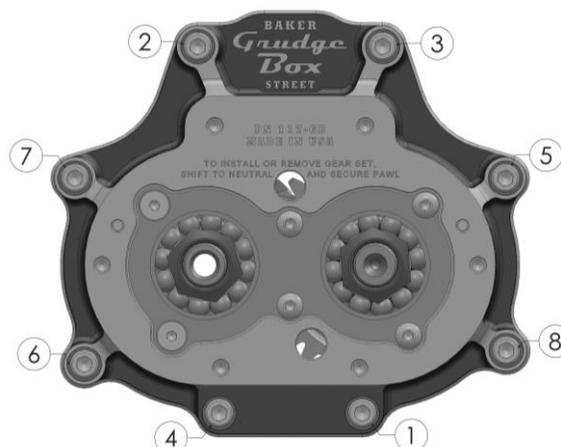

FIGURE 30 | TORQUE SEQUENCE FOR GRUDGEBOX BEARING DOOR BOLTS
- Install the eight stainless steel cap screws and washers onto the bearing door using blue threadlocker. Be sure to replace the exhaust bracket beneath the bottom inner bolts. Torque to 22 – 25 ft-lb using the torque sequence in figure 30. You may remove the zip tie from the shifter pawl and the black rubber cap from the mainshaft at this time.